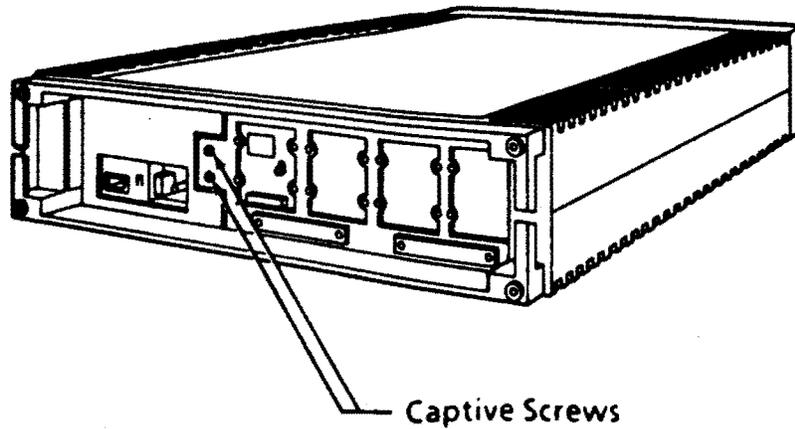

Figure 6-3: Patch and Filter Panel Assembly Access
5. Loosen the two captive screws on the left end of the Patch and Filter Panel assembly, and swing it open (Figure 6-3).